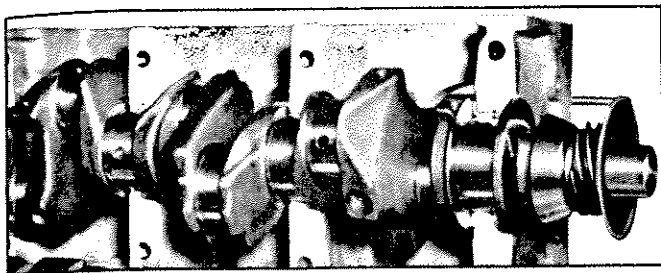

Fig. 56—Crankshaft Installed
3. Install crankshaft assembly in right crankcase half (fig. 56), being careful not to damage bearings.